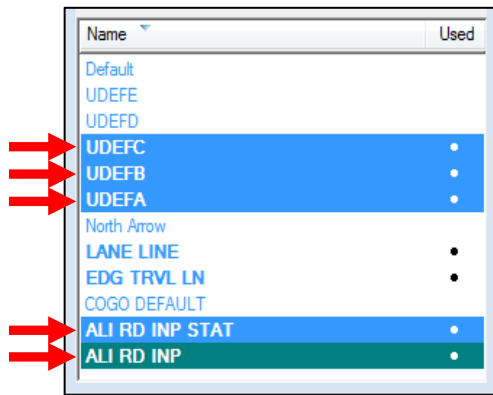

Figure 7.4. Example of Alignment and User Defined Levels.
**Only include Alignment Levels and User Defined Levels in this file** (see figure 7.4).